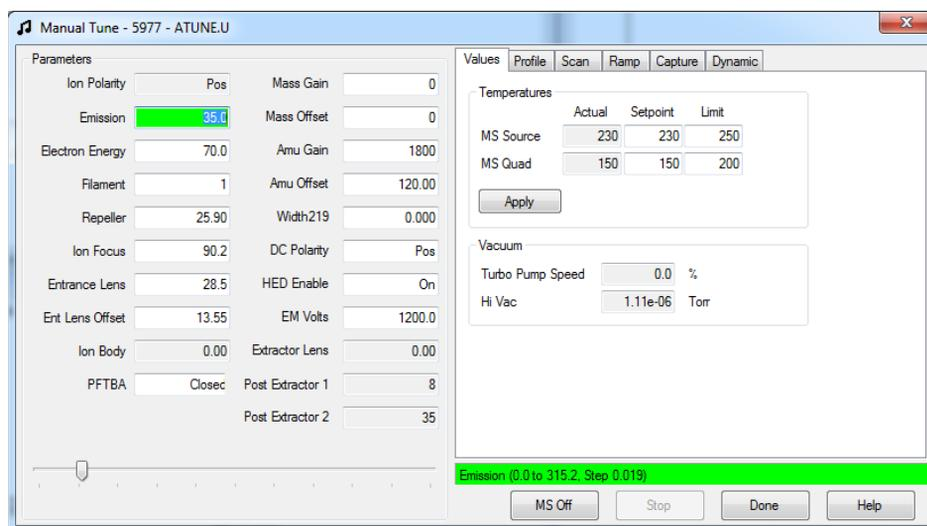
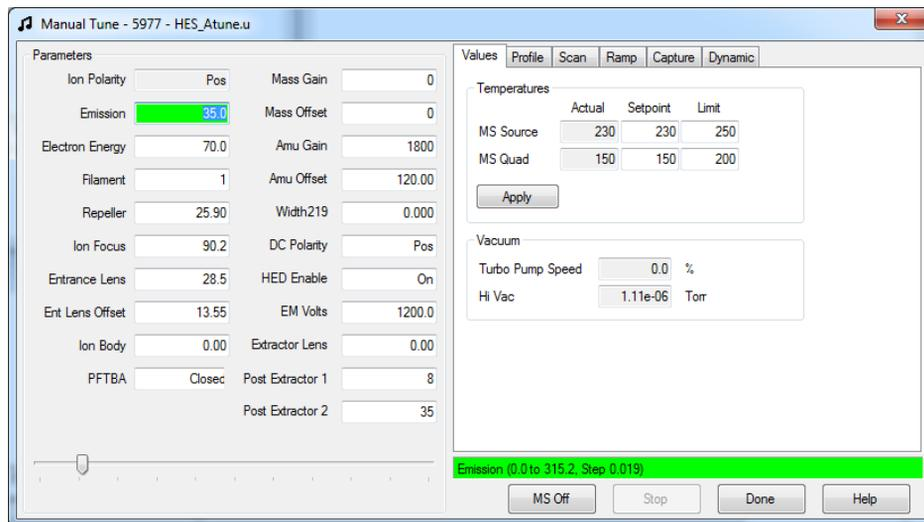

Figure 24 Manual tune values tab
Figure 25 HES manual tune values tab
- 2 Click the **Values** tab to view the MSD Temperatures and Vacuum. (See Figure 24 and Figure 25 on page 94.)